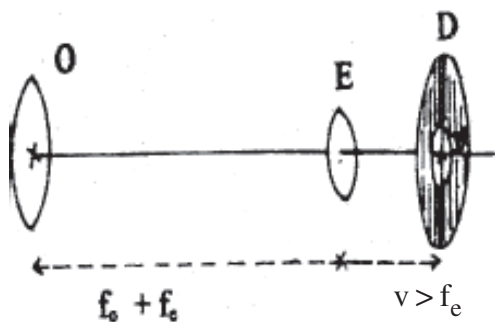

Fig. 19.5
- (v) Fix the diaphragm D in the third upright. Adjust the height of its centre above optical bench equal to that of the eye lens. Then keep it on the optical bench at a distance slightly more than f_e from the eye lens on the side opposite to the objective lens (Fig. 19.5). You should now see the image of cross mark on objective lens made by eye piece at the centre of the diaphragm. Make fine adjustments in the position of diaphragm vertically, horizontally and along length of the optical bench. Thus you locate the exit pupil of the telescope.